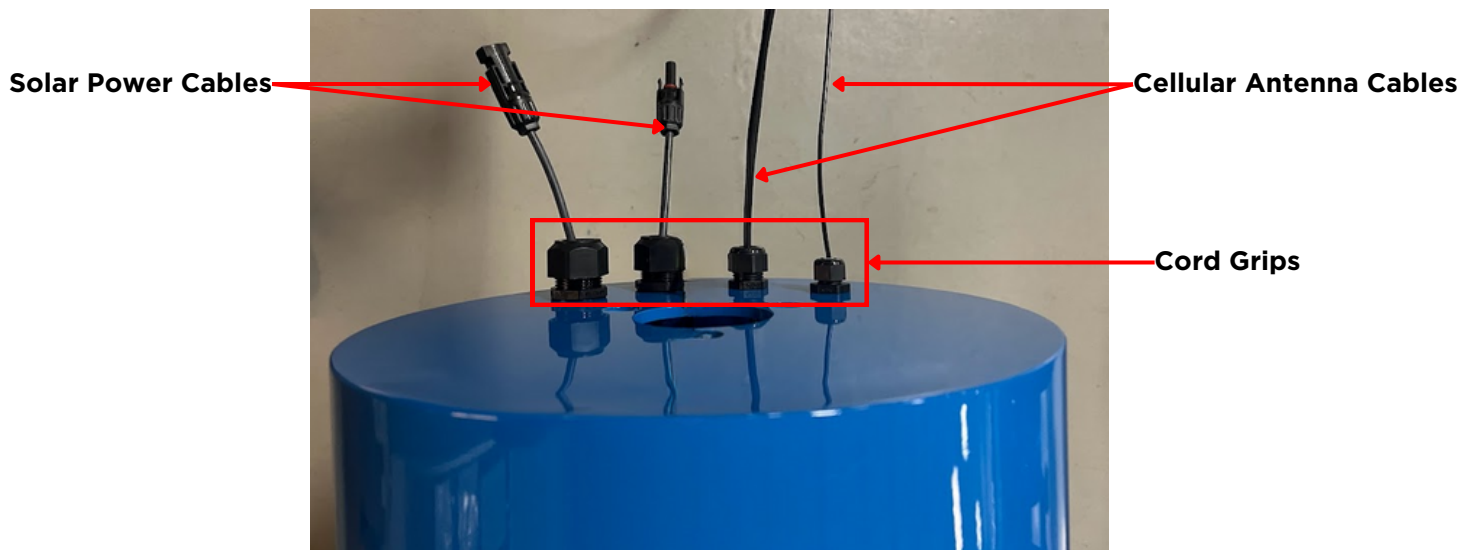

Figure 4
- **Solar panel power & cellular communication wiring through cord grips** - The current version of the CB 1-w is shipped from the factory with the solar panel power and cellular communication antenna wiring already run through the four cord grip pass throughs located on top of the tower. See Figure 4.